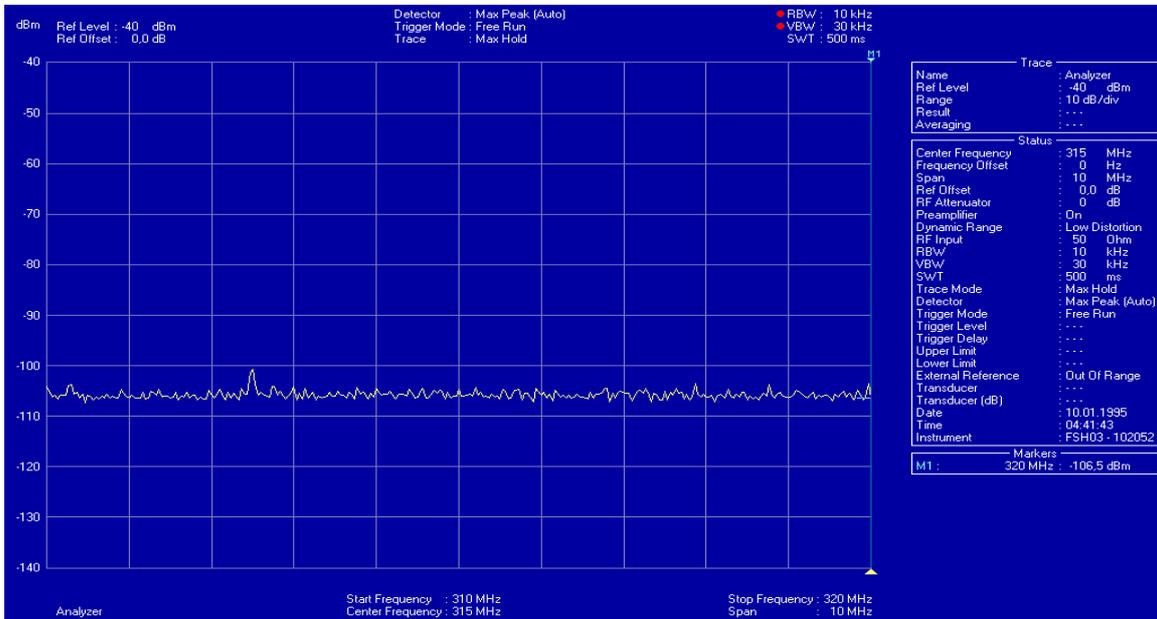
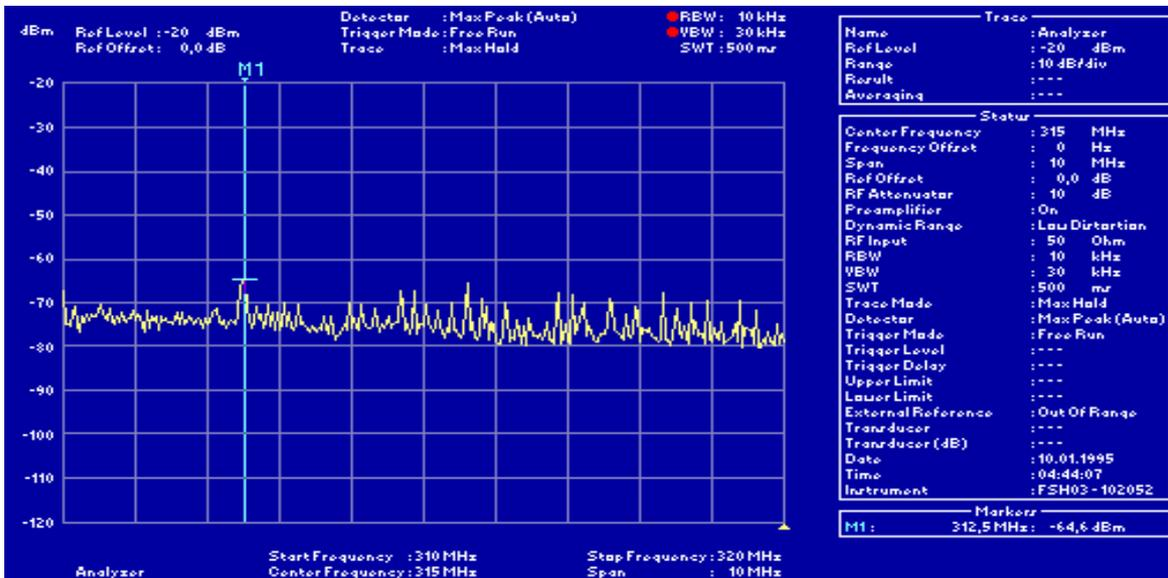

Fig. 1: Typical site survey without preamplifier
Fig. 2: Same with external preamplifier. Please note the higher floor level due to the additional external preamplifier (preamplifier gain: +37 dB)
2) Analyze and Evaluation. In the following please see two (Fig. 1 and Fig. 2) typical “uncritical” screen shot examples for comparison: